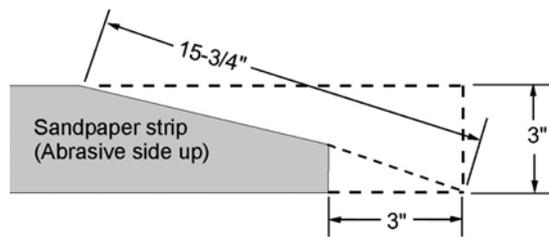

Figure 9
1. Mark and cut a taper at one end of the roll as shown in Figure 9. Because the tapered end should use all of the left (outboard) slot width, its end must be trimmed back three inches as shown.
6. Remove the abrasive strip from the drum, and cut a taper as was done with the starting edge (see Figure 9).